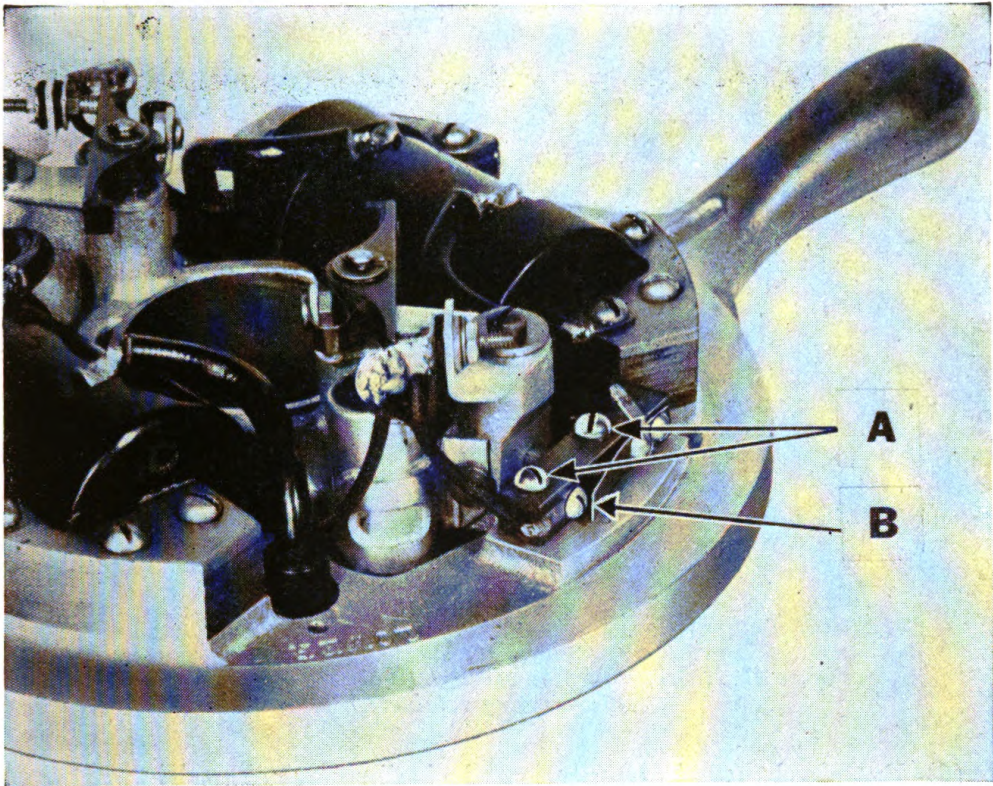

Figure 66. Ignition shut-off switch. (When timer handle is moved to "stop" position, the contacts on switch are closed.)
k. **IGNITION SHUT-OFF SWITCH.** This switch is built into the magneto armature base and operates automatically. When timer handle is moved all the way to left over the word "stop" on hood, cam on top of crankcase allows switch push rod to move far enough to close contacts on switch, thereby short-circuiting current and stopping motor. By moving timer handle to start position, contact points open and allow motor to be started again. If this switch is removed or becomes damaged, it should be adjusted so contacts are closed when timer handle is at "stop," and open when timer handle is at "start." (See *B*, fig. 66.) *This is important.* Adjustment can be made by loosening the two screws on top of switch block (see *A*, fig. 66) and moving switch block in or out until proper setting is found. Always test by moving timer handle to make sure switch is working properly.
m. **CARBURETOR.** (1) To get at carburetor, hood must first be removed. To check and clean carburetor, remove fuel line at bottom of carburetor bowl. Loosen Bowden control wire from speed-control lever and slide wire out of socket.
(2) Take off two nuts that hold carburetor and primer to crankcase. Remove carburetor.
(3) To clean carburetor bowl remove the five screws and washers that fasten top of carburetor to body. Screw out high-speed needle valve and remove cover. Clean out bowl with cleaning solvent. Make sure no sediment or foreign substance clings to walls.